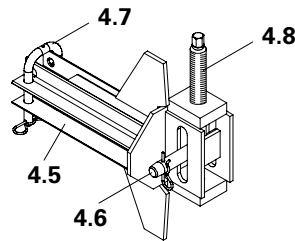

Fig. B2.13
2. Fix Connector TRIO-CB (4.5) to panel struts with hook clamps  $\varnothing 25$  (4.7), see plans for arrangement. Centre distance = bracket spacing. By changing the mounting position of the spindle (4.8), the Connector TRIO-CB can be cantilevered to the left or right. (Fig. B2.13 + B2.13a)
3. Place Strongback CB (4) on the connectors. Bottom projecting length: see Planning or C1.